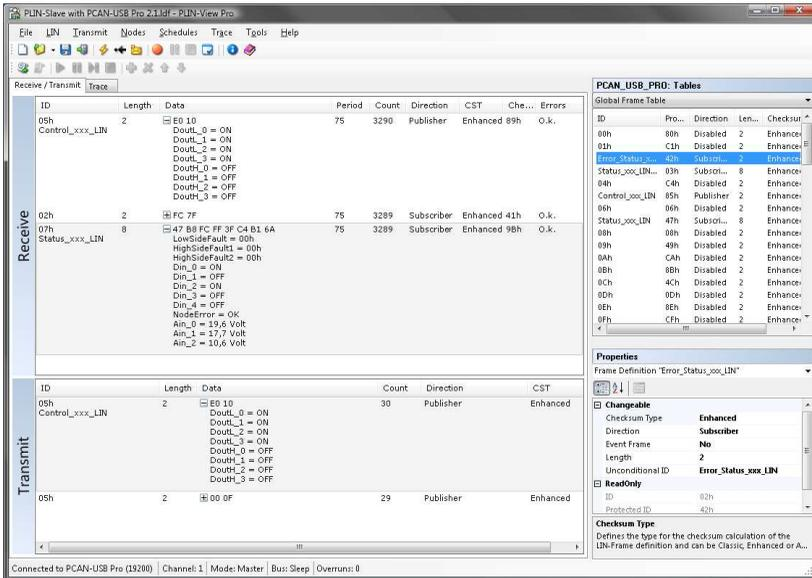

Figure 18: Receive/Transmit tab
26. Finally confirm the settings in the dialog box with **OK**. The main window of PLIN-View Pro appears (see Figure 18).